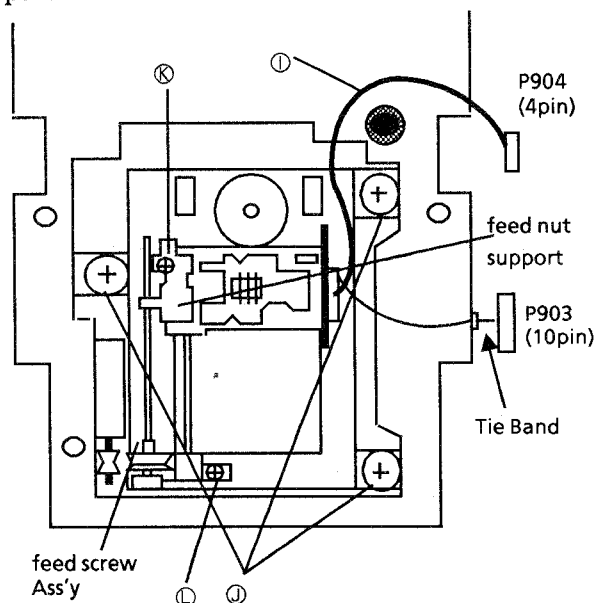

Fig.6
2. Rotate the cam gear ③ backward to open the Front door.
3. By inserting a thin driver from upside of the mecha ⑧, rotate the gear ② (see fig.-11) counterclockwise to eject the tray. And, shift the tray to remove the fitting after unlocking the bottom of the rail base ass'y.
4. Remove the 2 screws ① fixing the Changer mecha ass'y.
5. Slide the Changer mecha ass'y to arrow direction ①.
Wire ① should be set as Fig.6.